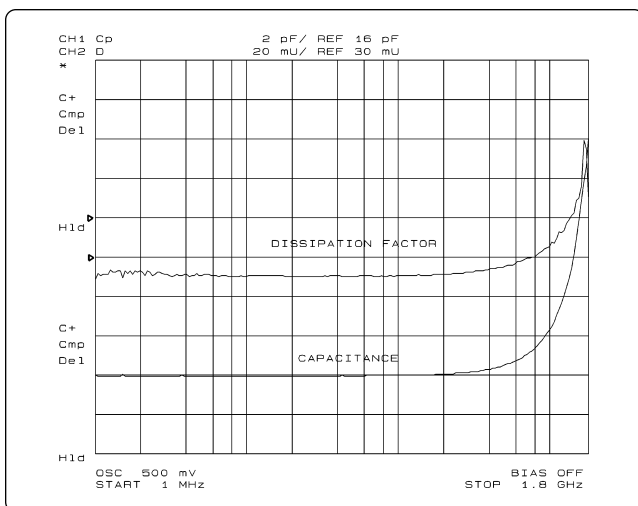

Figure 2. Frequency characteristics of a chip capacitor
On the basis of Agilent Technologies newly developed RF I-V method, the 4291B makes it possible to measure impedance at frequencies up to 1.8 GHz with high accuracy (basic accuracy:  $\pm 0.8\%$ ). In particular, it uses state-of-the-art calibration technology for measuring the loss factor (D) to achieve a typical accuracy of  $\pm 0.0007$  for  $D = 0.002$  (100 MHz). Figure 2 shows an example measurement of frequency characteristics (C-D) up to 1.8 GHz.